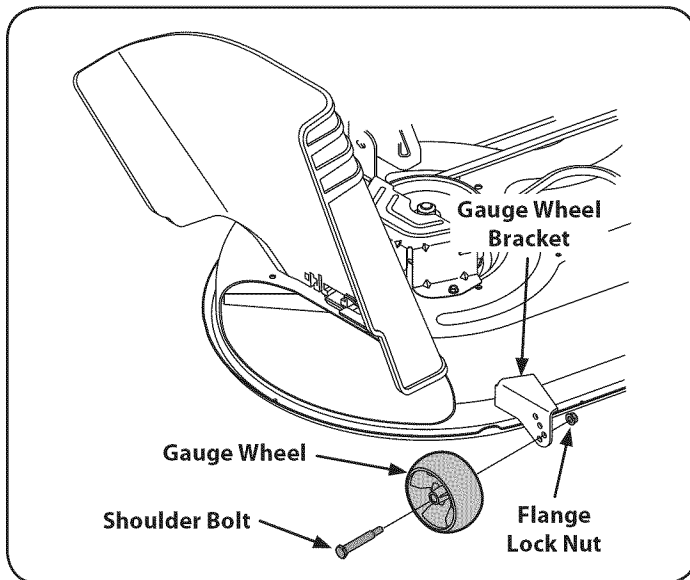

Figure 36
2. Remove the flange lock nut securing the front gauge wheel shoulder bolt to the deck. Remove the gauge wheel and shoulder bolt. Refer to Figure 36.
- e. While holding the belt and pulley together, rotate the pulley to the left (See Figure 36). Continue holding and rotating the pulley and belt until the belt is fully rolled into the PTO pulley.